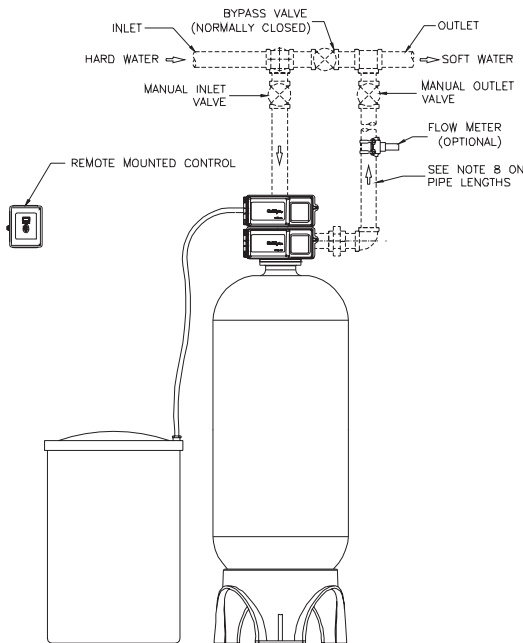
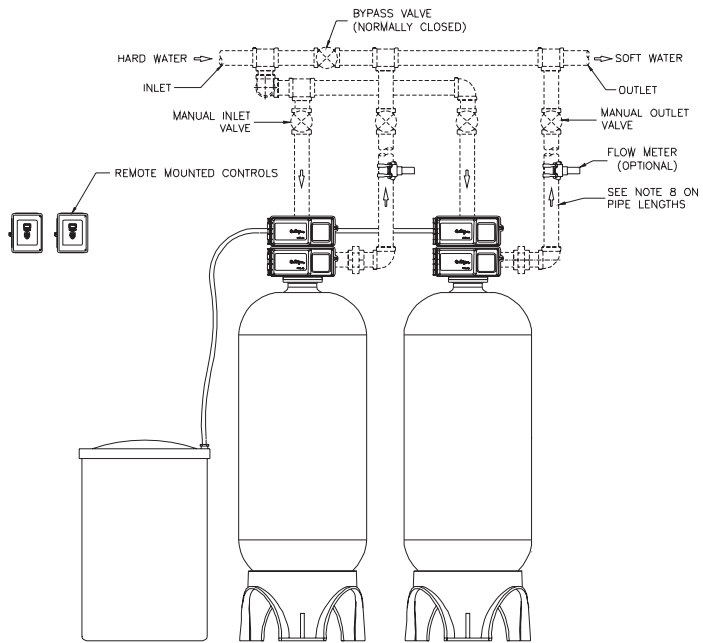
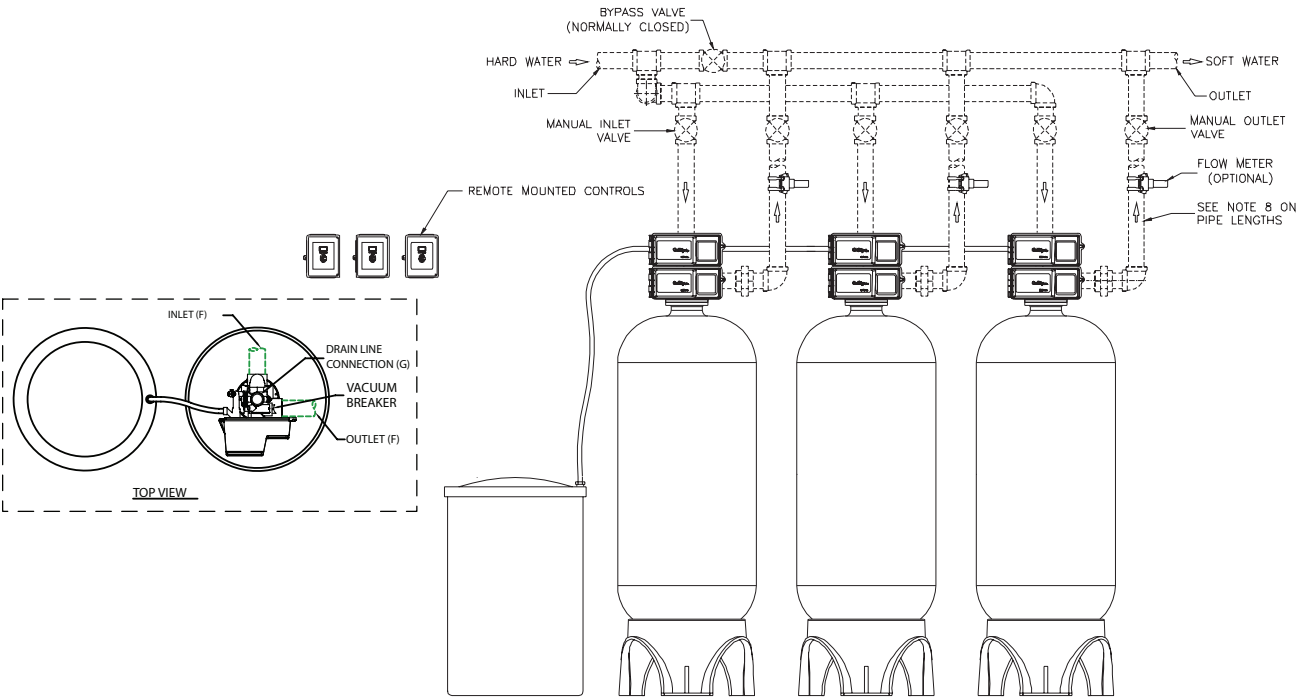

Figure 9. Single Tank
Figure 10. Duplex Alternating Tanks
Figure 11. Progressive Flow/Triplex Parallel Tanks
- Depending on the type of softener system (such as single, twin, etc.) and the installation parameters, required pipe lengths and piping accessories will vary. See Figure 9, Figure 10, and Figure 11 on page 10 to aid the installation. If the layout drawings are not sufficient for your application, consult a Culligan dealer for specific installation guidelines.